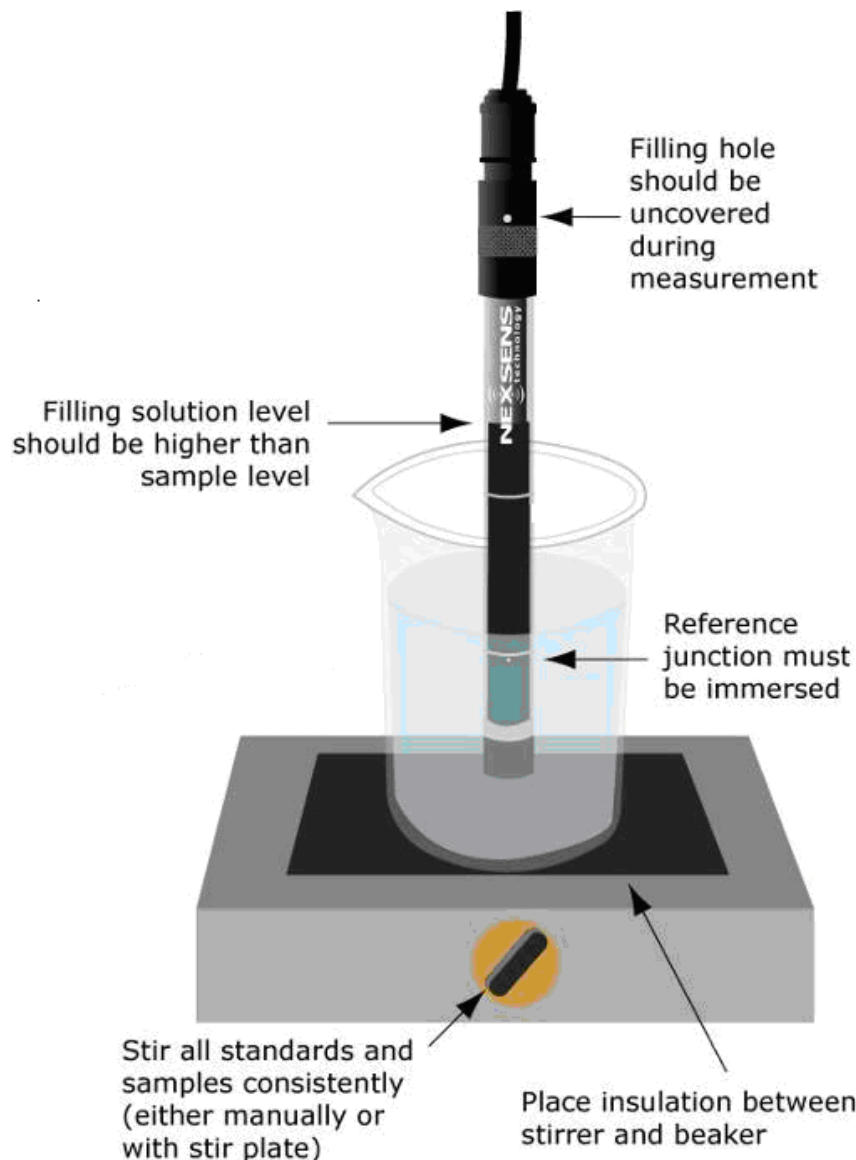

Figure 3: Visual summary of proper measurement techniques for ISE WQSensors
- The fastfill sleeve should be open (down) during measurements (see Figure 3).
- The reference filling solution level should be higher than the sample level (see Figure 3).
- The sample level should be higher than the immersion line on the probe (see Figure 3).